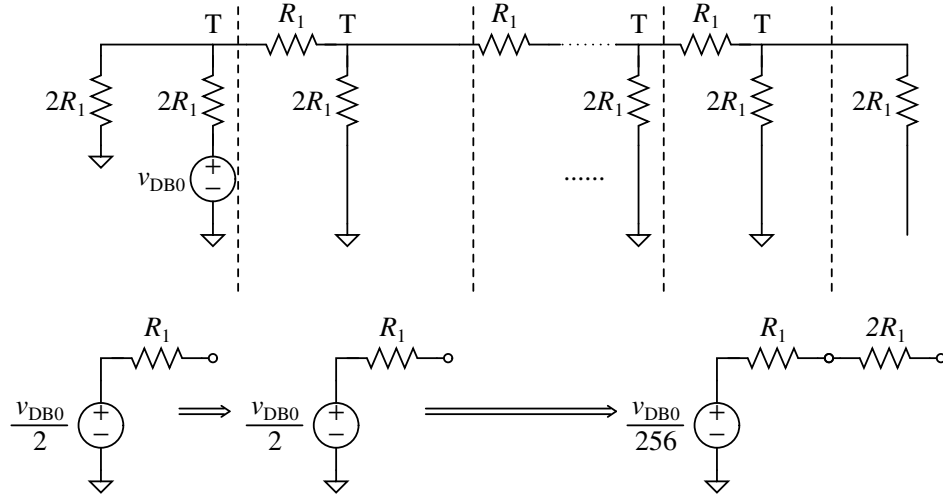

Figure 6: Thevenin equivalent process
- (A) Determine  $v_{DAC}$  as a function of  $v_{DB0}$  through  $v_{DB7}$ , and  $v_{OFF}$ .
**Answer:** The resistive network at the negative terminal of the op-amp is called an R-2R ladder. We can solve by using the superposition principle. We turn off all the sources except one, say  $v_{DB0}$ , and then apply Thevenin's theorem repeatedly across each "T" node from left to right, as shown in Figure 6
Next we consider the effect of  $v_{OFF}$ , when all of  $v_{DBi}$ 's are set to zero. The resistance  $R_T$  looking into the R-2R ladder is  $R_T = R_1 + 2R_1 = 3R_1$ , as shown in Figure 6. It then follows that